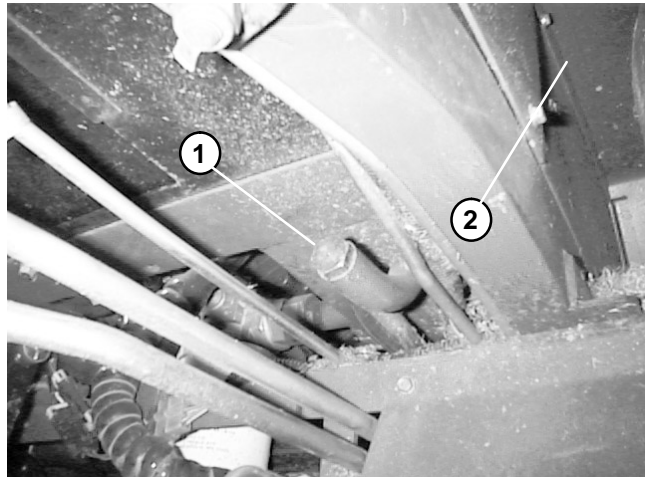

Figure 91
1. Remove drain plug from reservoir and let hydraulic oil flow into drain pan. Tighten plug when hydraulic oil stops draining (Fig. 91).